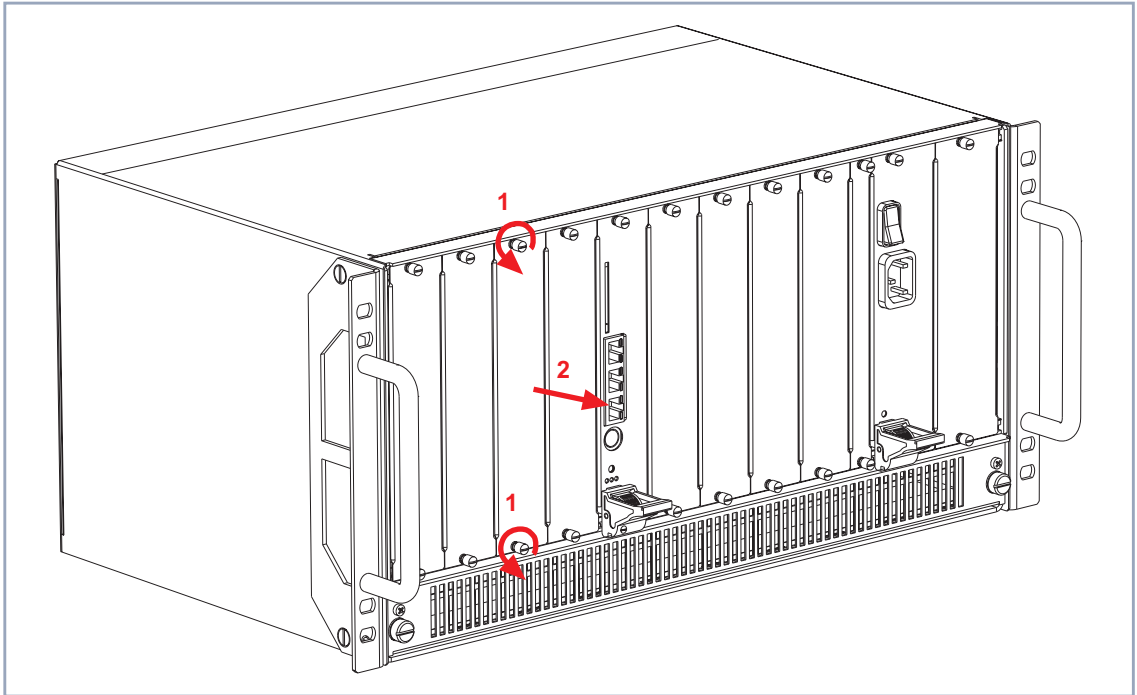

Figure 4-3: Removing the dummy front-panel
- Loosen the screws (see figure 4-3, page 37, arrows no. 1) of the dummy front-panel.